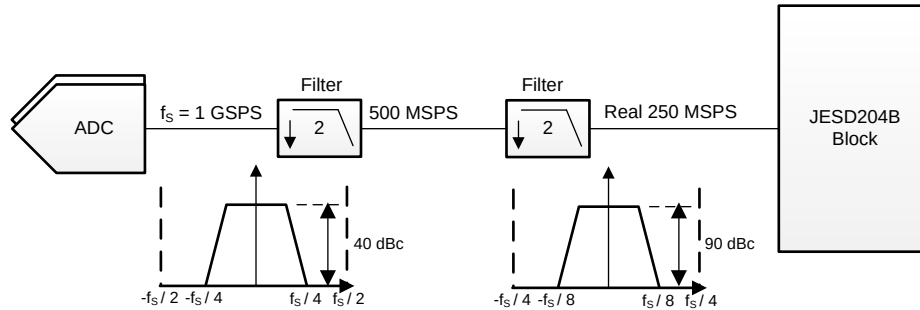

图 53. Operating in Mode 2
In mode 2, the DDC block cascades two decimate-by-2 filters. Each filter can be configured as low pass (LP) or high pass (HP) to allow down conversion of different frequency ranges, as shown in 表 2. The LP, HP and HP, LP output spectra are inverted as shown in 图 53.